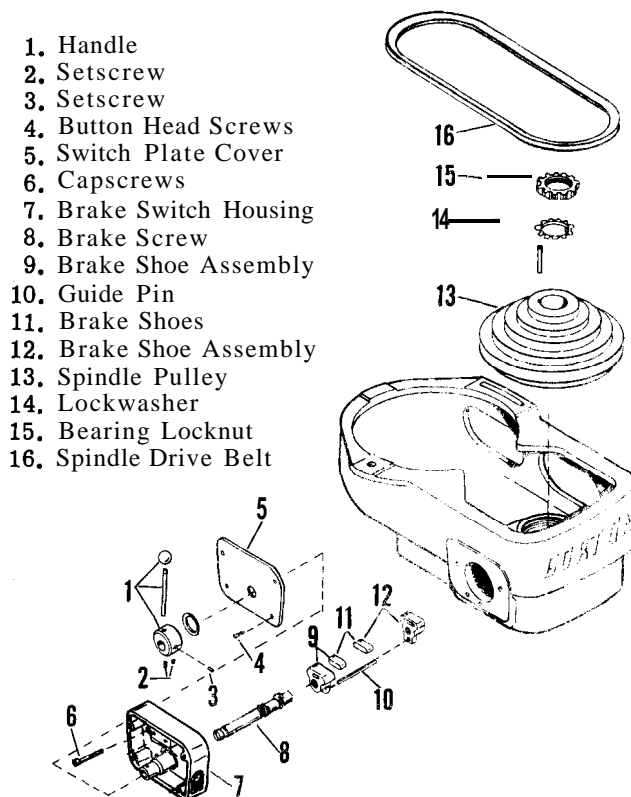

Figure 23. Replacing Brake Shoes--Standard Head
2. Remove the bearing retainer nut (7).
3. Invert the spindle pulley housing (21) and press out the bearings (8) and two spacers (9 and 10).
52. REPLACING BRAKE SHOES--STANDARD HEAD (figure 23)